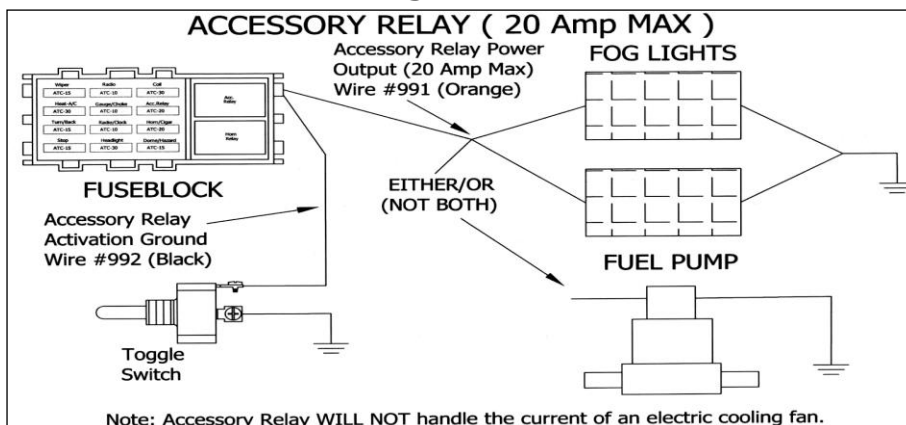

Figure 7-24 Accessory Relay Diagram
7.13.8 The final Accessory component in this Mustang chassis harness is a 20amp accessory relay output. The relay is preinstalled in the fuse block, powered, and fused. **See Figure 7-24.**